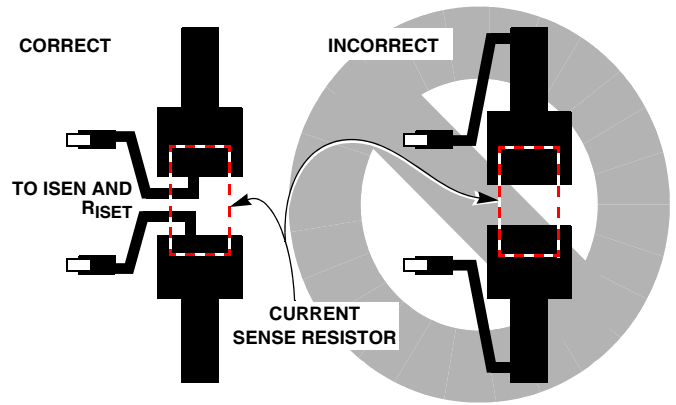

FIGURE 1. SENSE RESISTOR PCB LAYOUT
**Physical layout of  $R_{SENSE}$  resistor** is critical to avoid the possibility of false overcurrent occurrences. Ideally, trace routing between the  $R_{SENSE}$  resistors and the IC is as direct and as short as possible with zero current in the sense lines (see Figure 1).